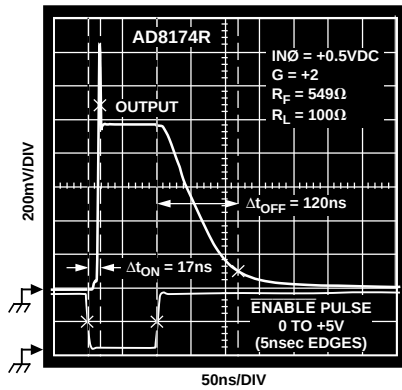

Figure 5. Enable and Disable Switching Characteristics
2AD8174 only. Shutdown (SD) pin is grounded.  $\overline{\text{ENABLE}}$  pin is driven with 0 V to +5 V pulse (5 ns rise and fall times). State of A0 and A1 logic inputs determines which channel is activated (i.e., if A0 = Logic 0 and A1 = Logic 1, then IN2 input is selected). Set IN0 (or IN2) = +0.5 V dc, IN1 (or IN3) = -0.5 V dc, and measure transition time from 50% of  $\overline{\text{ENABLE}}$  pulse (+2.5 V) to 90% of the total output voltage change. In Figure 5,  $\Delta t_{OFF}$  is the disable time,  $\Delta t_{ON}$  is the enable time.